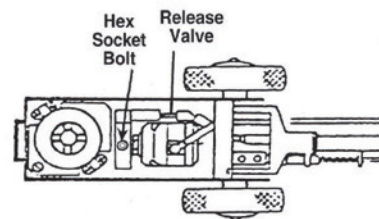

Figure 1
2. Loosen the hex socket bolt one-half turn. See Figure 1.